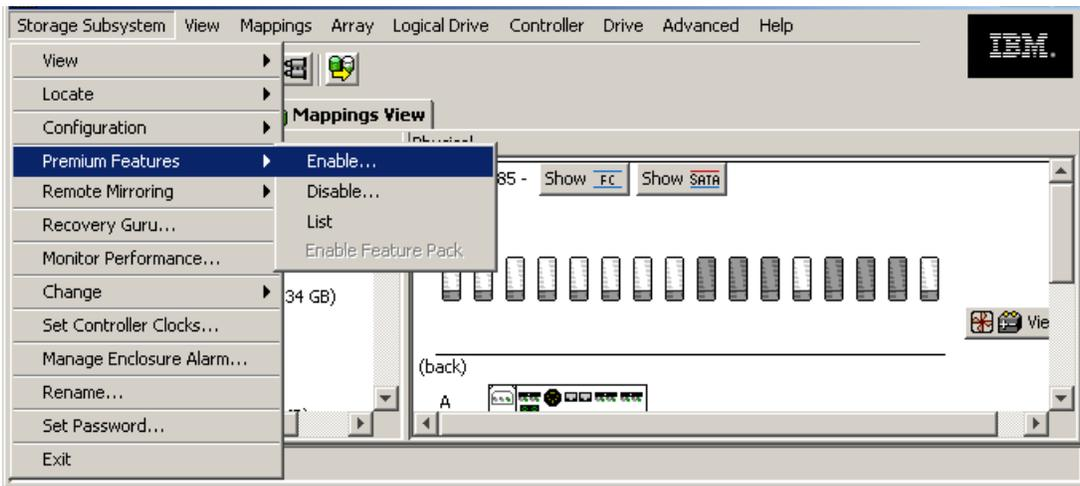

Figure 12-28 Option to enable a premium feature
- Once you have received the key file, go to Storage Manager and click **Storage Subsystem** → **Premium Features** → **Enable** in the Subsystem Management window, as shown in Figure 12-28.